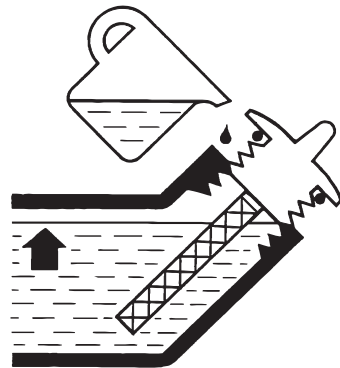

Figure 4: Engine Oil Correct Level
4. Do not overfill, if oil level is too high, oil will drain out through the fill plug. See correct oil level in Figure 4.
- The engine is filled with engine oil (see Figure 4: Engine Oil Correct Level on page 12).